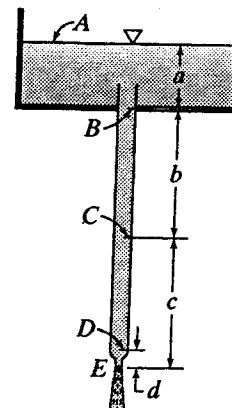

Figure X5.13.7
- 5.13.8 In Fig. X5.13.7 let $a = 7.5$ m, $b = c = 15$ m, and $d = 300$ mm. All the losses of energy are to be ignored when the stream discharging into the air at E has a diameter of 80 mm. What are pressure heads at B , C , and D if the diameter of the vertical pipe is 120 mm?